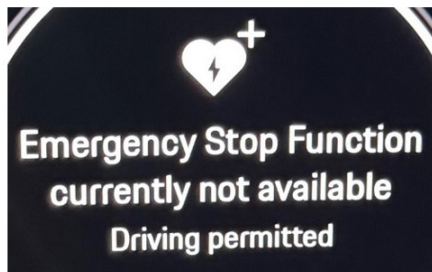
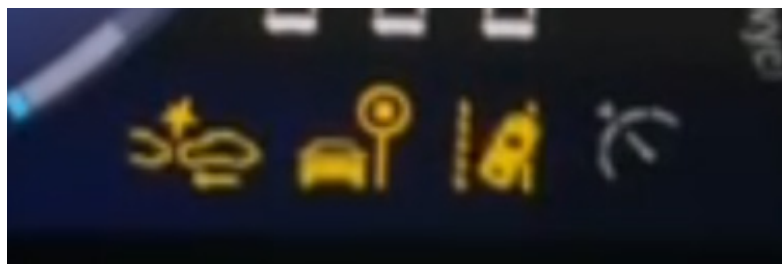

Figure 4
Figure 7
2. Customers complain of **3 select white warning messages presented in the instrument cluster that read, "Emergency Stop Function currently not available | Driving permitted", "Active Lane Keeping currently not available | Driving permitted", and "Assistance Systems currently restricted | Sensor is dirty, observe messages in central display"** (Figures 4, 5, 6), along with subsequent yellow warning indicators for the affected driver assistance systems (Figure 7).